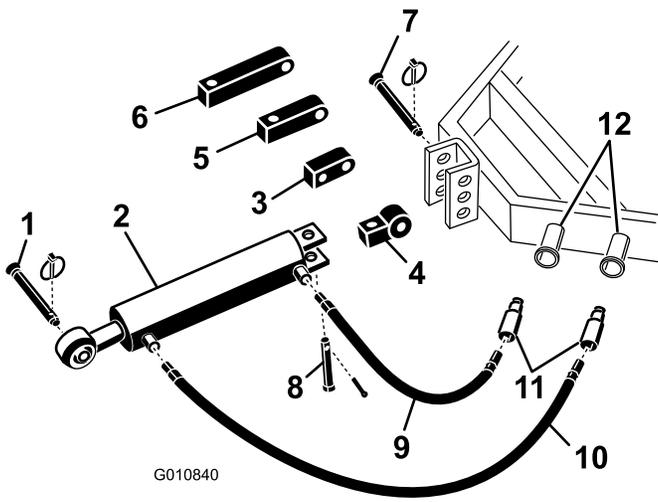

Figure 5
- Secure the connecting link end of the hydraulic top link to the tractor with the pins supplied with the tractor (Figure 5). Position the hydraulic top link so the rod end is toward the aerator. The cylinder ports should be positioned toward the tractor's auxiliary power hydraulics.
Note: If the hydraulic cylinder must be positioned with the ports facing upward, use the rotational block instead of the standard mounting block to reposition the cylinder (Figure 5). A 90 degree hydraulic fitting may be used instead of the rotational block (fittings are not supplied).
- Remove the cotter pin and pin securing the standard connecting link to the cylinder (Figure 5). Remove the connecting link from the cylinder.
- Install the rotational block to the cylinder with the pins previously removed (Figure 5).
2. Connect the 106 cm (3-1/2 foot) long hydraulic hose to the hydraulic top link port which is closest to the aerator Figure 5. Apply Teflon tape or pipe thread sealant to the hose threads to prevent any leaks.
3. Connect the 76 cm (2-1/2 foot) long hydraulic hose to the hydraulic top link port which is closest to the tractor (Figure 5). Apply Teflon tape or pipe thread sealant to the hose threads to prevent any leaks.
If the hydraulic cylinder does not reach the aerator mounting bracket, use an extension block instead of the standard mounting block to connect the cylinder to the tractor (Figure 5).
- Install the required length extension block to the cylinder with the pins previously removed (Figure 5).